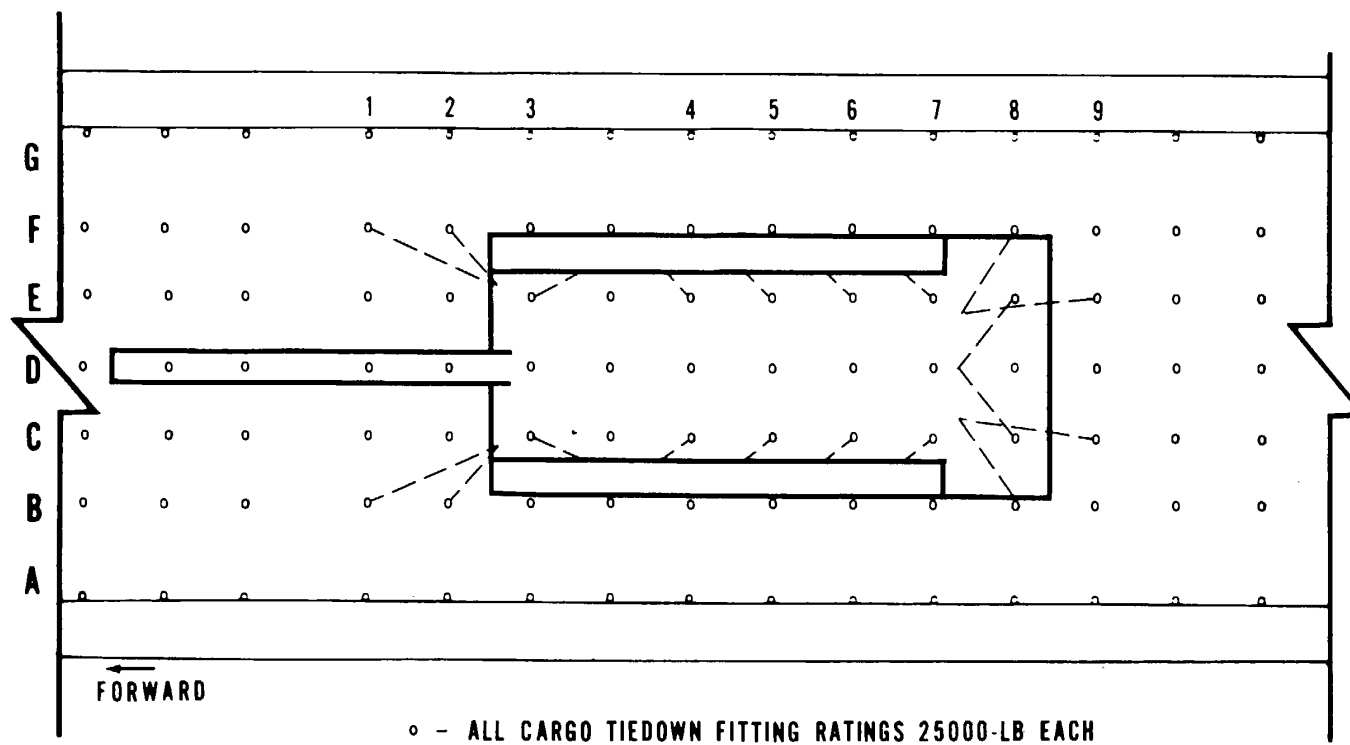

Figure 4-1. Tiedown diagram for gun, M107, and howitzers, M110 and M110E2 in C-5 aircraft.
- d. Restraint factors (g loads) for minimum acceptable conditions specified for crew and passenger safety in the event of a controlled emergency landing are specified in AR 70-39 and TO 1C-5A-9. Tiedown diagram (fig 4-1) and data table (table 4-1) are based on acceptable methods and can be used as a guide. Figure 4-1 shows a representative pattern. Table 4-1 lists the tiedown devices required (provided aboard aircraft), tiedown points on the gun or howitzers, and corresponding fittings on the aircraft to which devices are secured.